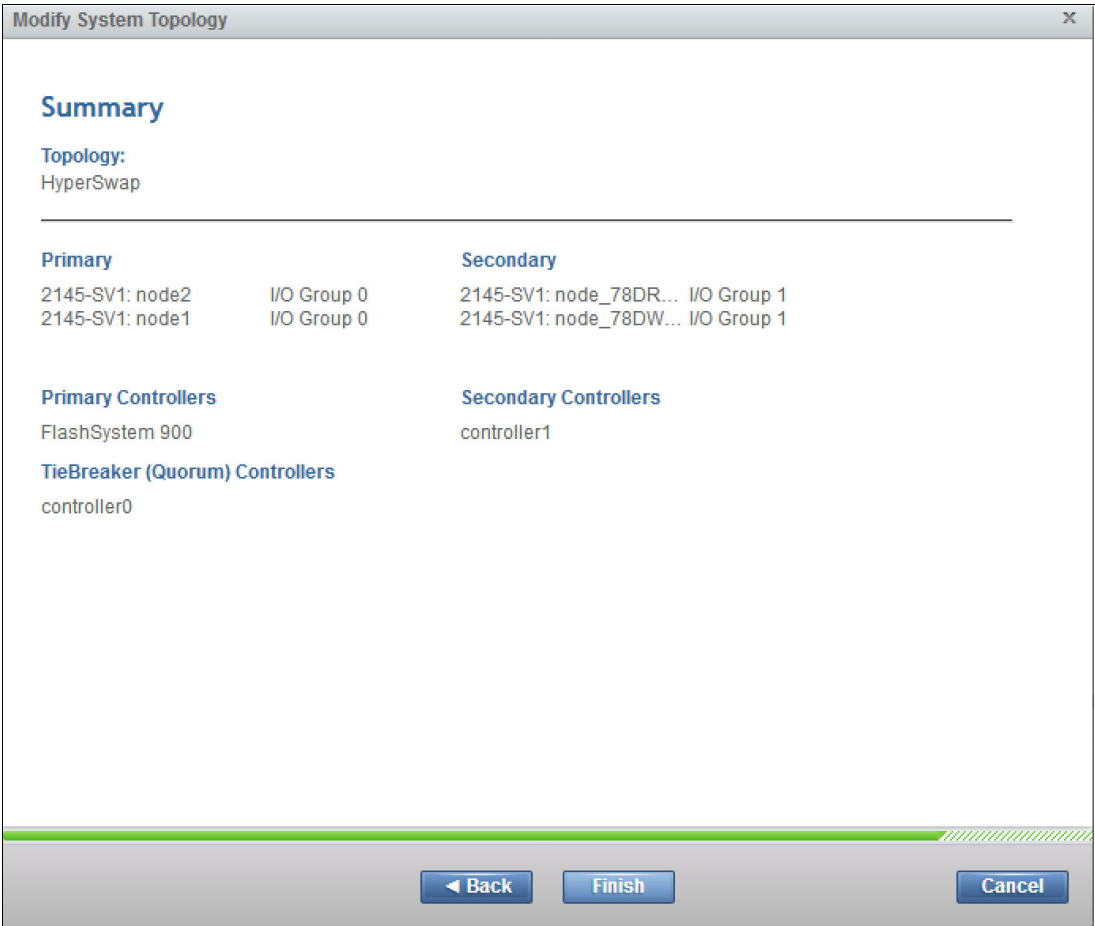

Figure 4-42 Summary
9. Figure 4-42 shows the details of the HyperSwap configuration to be reviewed before committing the topology change.